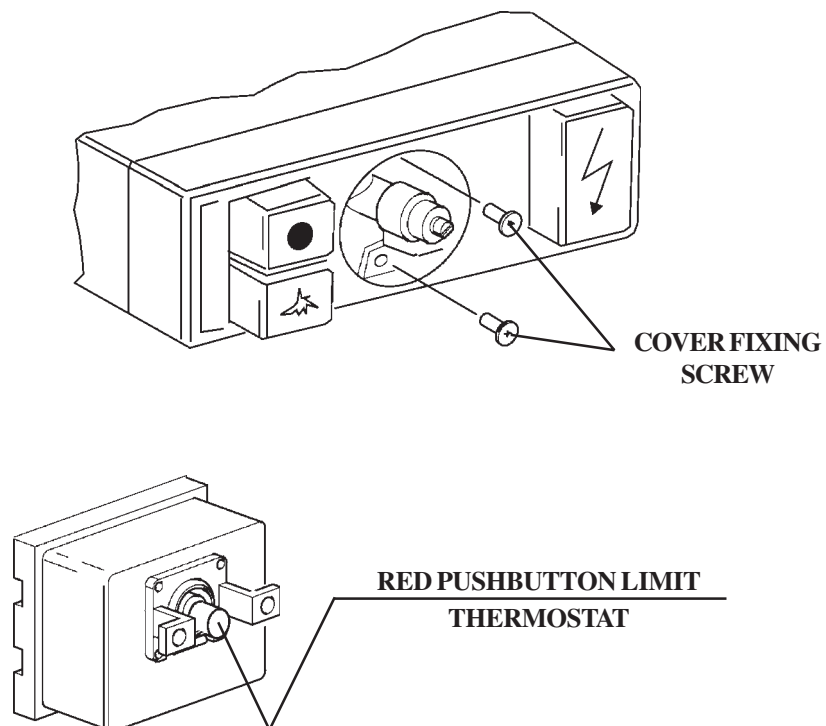

Fig. 10
G) Safety thermostat (Fig. 10)
The fryers are fitted with a safety thermostat (Fig. 10) which is activated in case of oil overheating.
When this thermostat has intervened, to have the unit start again you need to reset the thermostat itself (Fig. 10).